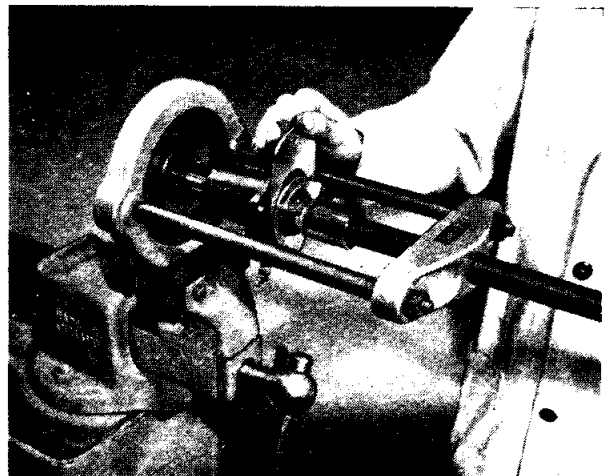

Fig. 9 Fitting the Impeller, utilising the Churchill Tool No. FTS 127.
- (c) The impeller must be a tight fit on the spindle and if it appears to have lost its interference fit with the spindle a replacement must be fitted. It must be pressed on as shown in Fig. 9 and soft